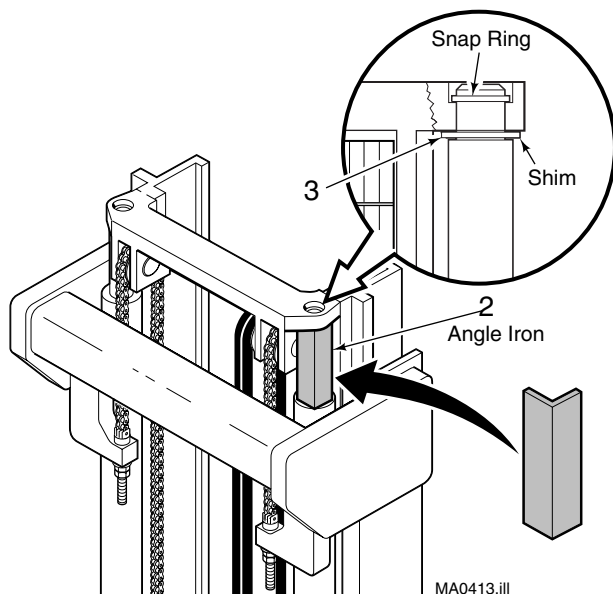

Figure 10. Two Stage Mast.
- 2 Place a 6 in. (15 cm) long, 2 X 2 in. (5 X 5 cm) angle iron between the top of the main lift cylinder and the crossmember. See Figure 10. Avoid contacting the cylinder rod seal. Lower the crossmember onto the angle iron.
- 3 **Two Stage Masts** - Remove the snap ring from the cylinder to be adjusted. Open the truck valve to allow the cylinder to retract. Tap the main lift cylinder rod down past the crossmember to install the shim. Install shim(s) part no. 683797 to the cylinder rod below the inner upright crossmember. See Figure 10.